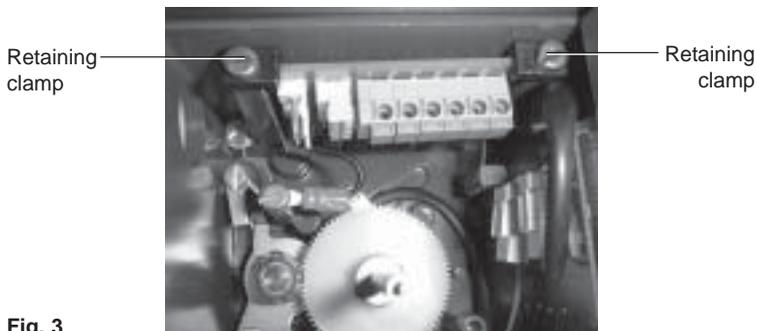

**Fig. 2 Options PCB**
**4.2.1** Firstly set the yellow slide switch as follows (refer to Figure 2):
If the options PCB is used for software configured travel switches, set all elements of the yellow slide switch **SW1** to position 'A'. Prepare the ribbon cable by ensuring that the connector is at right angles to the options PCB, ready for insertion into the main PCB socket (refer to Figure 2).